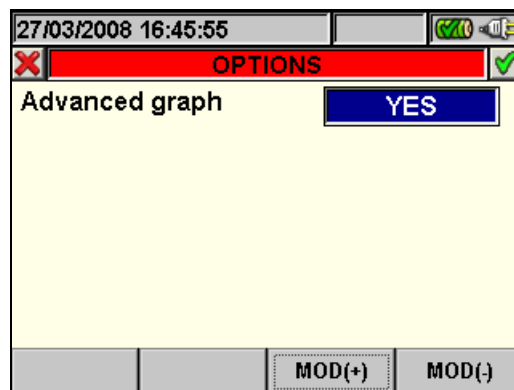

Fig. 130: Options (Advanced graph)
- **F4** key (or **OPTIONS** item on the display) to access the page for the activation of the “Advanced graph” (Fig. 130).
2. Press the **F4** key (or the **OPTIONS** item on the display) to access the page for the activation of the Advanced graph (Fig. 130).